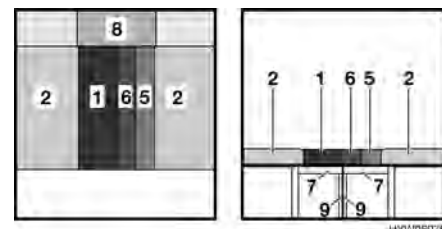

Fig. 41 After conversion into one large bed
- Insert the additional cushion (Fig. 41,8).
- Pull the slatted frames (Fig. 41,7) out completely.
- Fold out the four supports (Fig. 41,9).
- Place the back cushions (Fig. 41,1, 5 and 6) on the slatted frame.